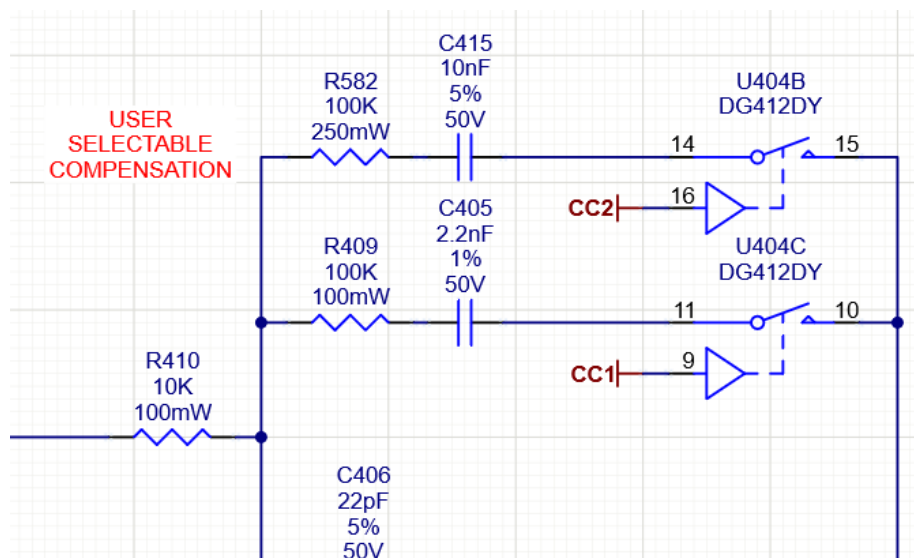

Figure 6.3 – Selectable factory-installed compensation networks
If your load inductance is between 75 μ H and 1 mH, and your load resistance is less than 5 ohms, then you can likely use Compensation Network 1 for your application. If your load inductance is between 1 mH and 5 mH, and your load resistance is less than 5 ohms, then you can likely use Compensation Network 2 for your application. (See **Figure 6.3**). These compensation networks are enabled when Compensation Network 1 DIP switch (SW#6) or Compensation Network 2 DIP switch (SW#5) on the Master amplifier module is set to the ON (UP) position.